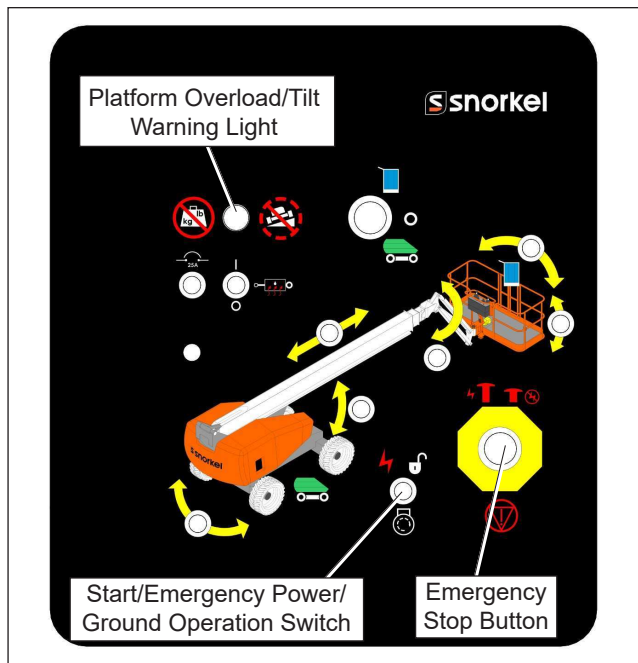

Figure 4.1 – Lower Controls
At the lower controls, the emergency stop is a two-position push button (refer to Figure 4.1).
- Hold the emergency power switch (refer to Figures 4.1 and 4.2) in the proper position to activate the emergency power system.
The ground operation switch (refer to Figure 4.1) prevents boom and platform movement if a control switch on the lower control panel is accidentally moved.
All functions are stopped from the upper and lower controls, when the platform overload limit is exceeded. The horn will sound intermittently and the platform overload light (refer to Figure 4.1 and 4.2) will blink until the excess load is removed from the platform. At that time, the machine functions are again operational.
If the aerial platform chassis is out of level more than the machine specified slope sensor alarm setting when the main boom is raised or extended, an alarm will sound and the tilt warning light on the lower and upper control panels (refer to Figures 4.1 and 4.2) will illuminate. The tilt alarm is located under the upper control panel.